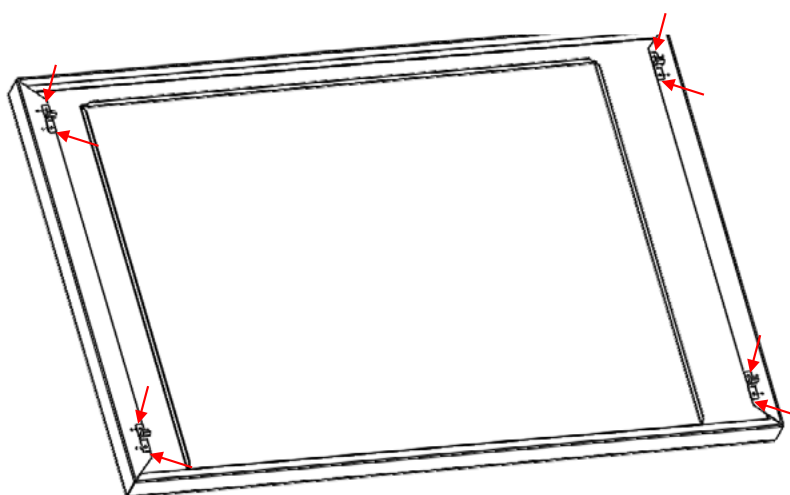
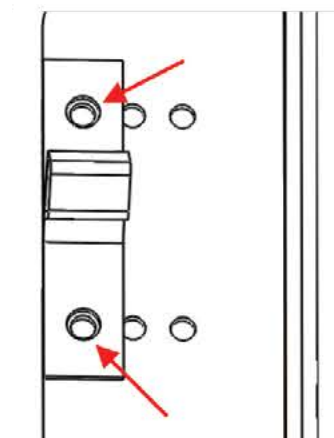

Figure 6
Figure 7
3. Lay the outer trim face down and, using eight of the #2 screws, install the four buckles on the corresponding mounting holes around the trim kit (see *Figure 6*). Make sure to use the same series of mounting holes on each corner, depending on your cabinet cutout (see *Figure 7*).